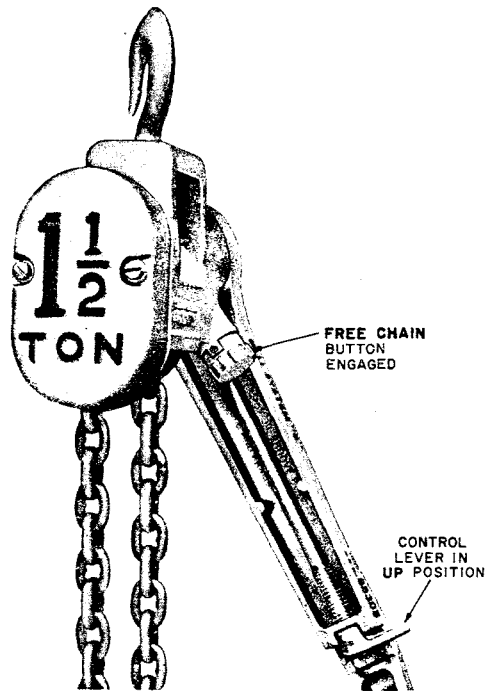

Fig. 4 — Control Lever and FREE CHAIN Button Positioned for Lifting Load
4.04 To lift the load (or apply tension) be sure FREE CHAIN button is engaged, then turn the control level on the handle to UP and operate handle (Fig. 4). Remove slack in chain between hoist and load by pulling free end of chain or rotating the hub cap. Be sure the load is applied in a straight line to avoid damage to the hoist and then operate the handle.